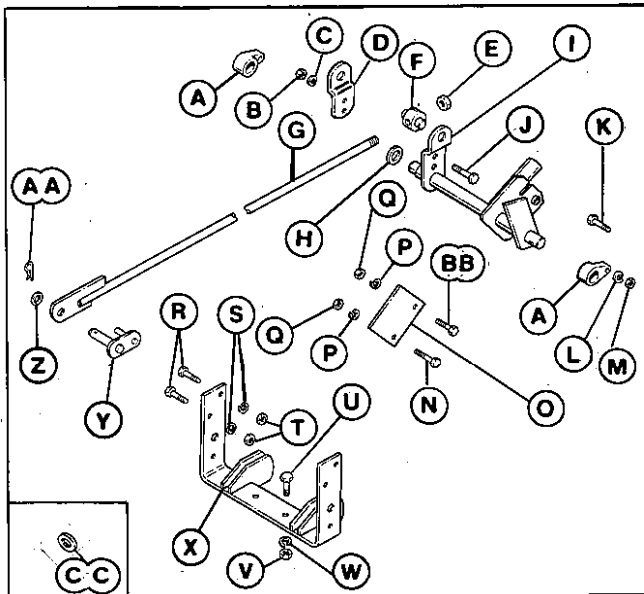
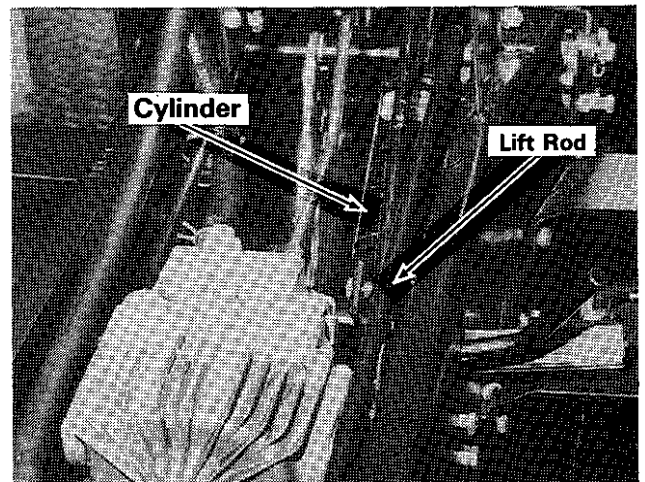
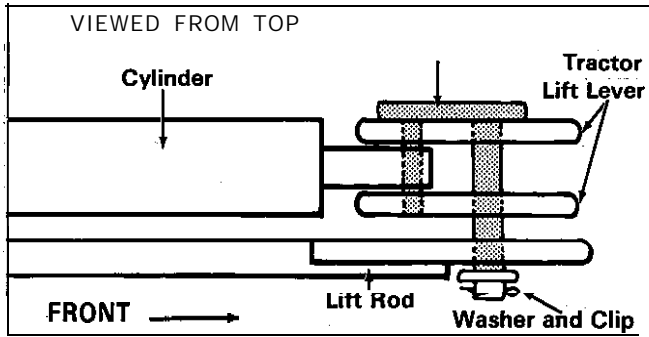
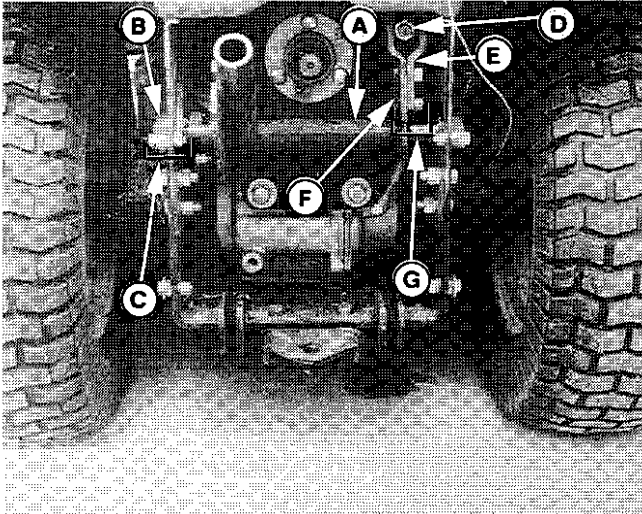

Figure 1. Kit Parts
Figure 3.
Figure 4.
Figure 8.
1. Install the lift rod (G, figure 1) as follows:
- Insert lift rod (G, figure 1) from rear of tractor up to the tractor lift lever. The rear end of lift rod is shown in figure 8. Figure 3 shows the lift rod as it is positioned in tractor.
- The cylinder (figure 3) is connected to the tractor lift lever. Remove the clip and pin, and disconnect the cylinder from the lift lever.
- g. Using the front trunnion (Y, figure 1), connect the cylinder and lift rod(G) to the tractor lift lever. (See figure 4.) Position cylinder and insert short leg of trunnion through it. Connect lift rod to long leg of trunnion. Be sure lift rod is positioned with flat side as shown.
2. For 18 hp models, Mfg. No. 1691307, and older, install special washer (CC, figure 1) as follows:
3. If a rear PTO has been installed on the tractor, it is not necessary to install the upstop plate (O, figure 1). To install, proceed as follows:
4. Insert the lift shaft (A, figure 8) into position, place bearing (B) on to each end, and secure with **capscrew** lockwasher and nut (C) on each side.
5. Position the rear **trunnion** (D) onto the lift rod. Install the lift arm half(E) to lift shaft(F) and secure with two **3/8-16x 1" capscrews, 3/8" lockwashers and 3/8" nuts** (G). Install centerlock nut on end of lift rod.
7. From top, connect **hitch (A)** to **drawbar with two 1/2-13 x 1-1/4 capscrews (C), 1/2" lockwashers, and 1/2" nuts.**